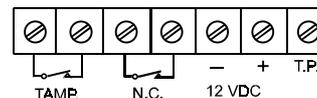

Figure 12 - Terminal Block Wiring
- D.** Connect wires to terminal block in the following order (Fig.12):
The test point T.P. terminal provides a good means for analyzing the sensor in the event of an environmental problem or suspicion of a faulty sensor. Using a DC voltmeter (20K ohms per Volt), connect its positive lead to the T.P. terminal and the negative lead to the (-) VDC terminal. See Figure 12.